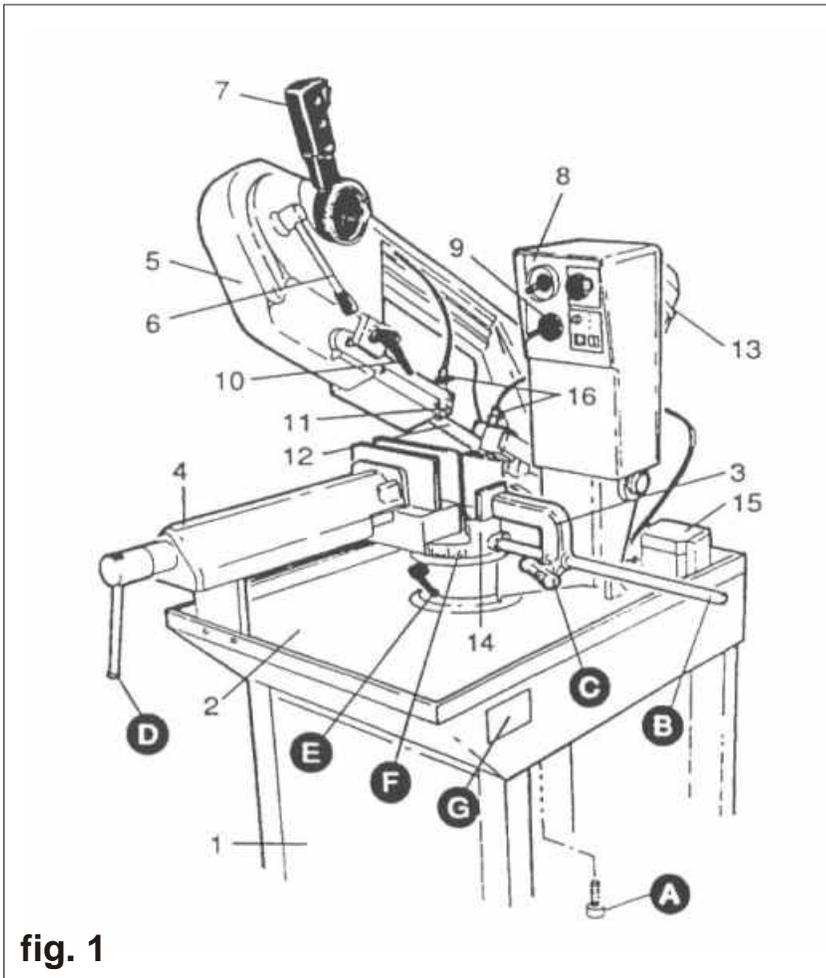

fig. 1
- Open the taps (16 - fig.1) of the cooling liquid.
- Make sure that the operating unit head is aligned with the graduate scale (F -fig. 1) according to the selected cutting angulation.
- open, close or choke the cooling liquid (through the two taps (6 - fig. 1) during the cutting operation;
- Loosen the lever (10 - fig. 1) and move (all along its stroke) the blade guide unit downwards.
The blade tension lever (6 - fig. 1) requires considerable effort to loosen. The easiest way is to lower the cutting head to the lowest position and use natural leverage to move the lever.
- Check that the new blade is correctly inserted, then pull the tension lever (6 - fig. 1) energetically outwards.
- Check that the blade tension is at its maximum, pulling the lever again (6 - fig. 1).